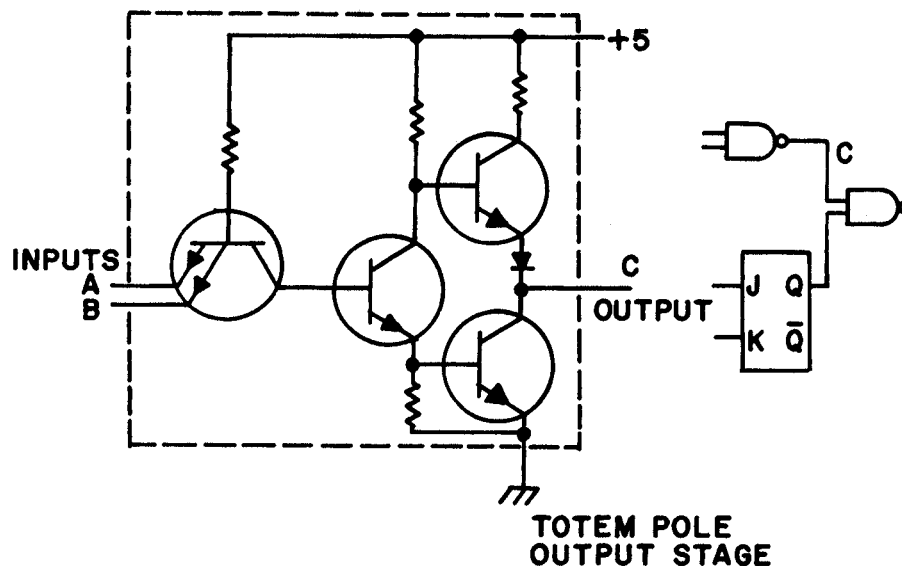

Fig. 7-2
Figure 7-2. When stimulating a node in circuit, such as C above, it is necessary to override the low impedance totem pole output stage driving that node. When the output is in the low state, it is a saturated transistor to ground. Presently used signal sources are not powerful enough to override this low state.
- 7-61. Figure 7-2 shows a problem created by the TTL logic family. The output stage of a TTL device is a transistor totem pole. In either the high or low state, it is a low impedance. In the low state it is a saturated transistor to ground. It thus appears as 5--10 ohms to ground. This presents a problem to in-circuit stimulation. A signal source used to inject a pulse at a node which is driven by a TTL output must have sufficient power to override the low impedance output.